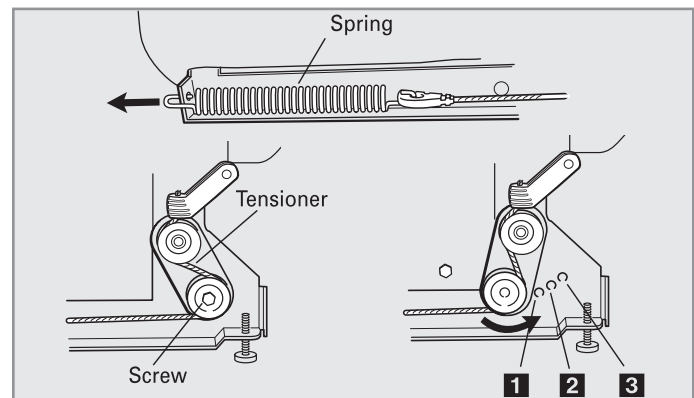

Figure 3
1. When door is unlatched, if door opens by itself, move the tensioner to a higher-numbered hole and replace the screw. See Figure 3.